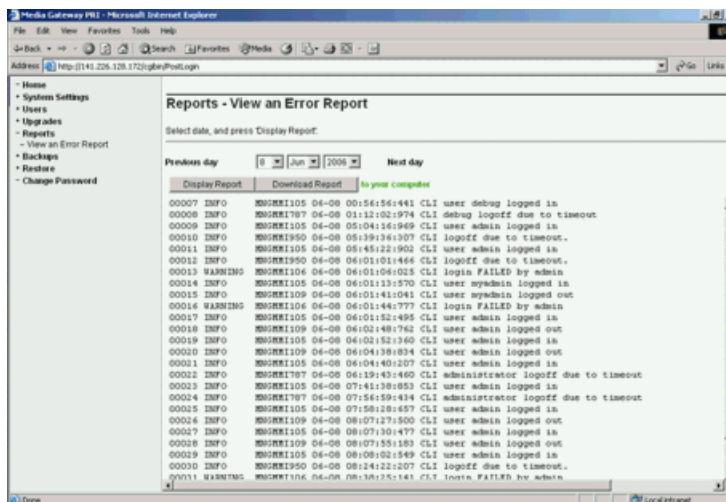

Figure 37: View an Error Report window
1. On the Home - System Overview window, click Reports > View an Error Report. See Figure 37: View an Error Report window on page 132.